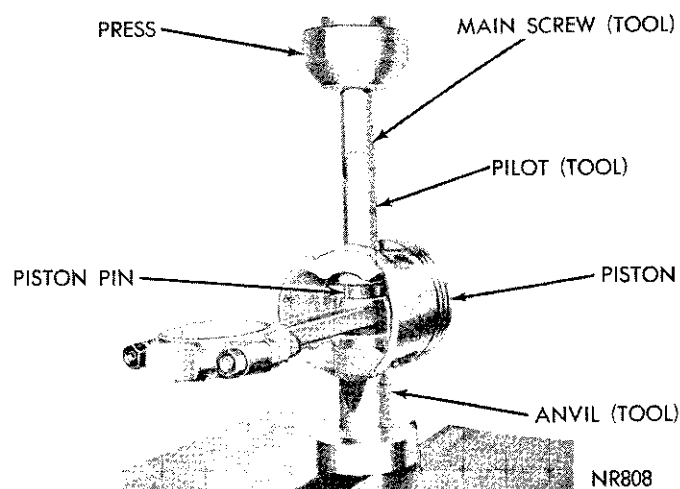

Fig. 39—Removing Piston Pin
(5) Install nut loosely on main screw and place assembly on a press, (Fig. 39).
(6) Press piston pin out of connecting rod. **When pin falls free from connecting rod, stop press to prevent damage to bottom of anvil.**
(7) Remove tool from piston.